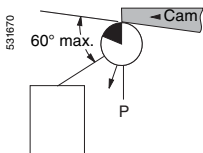

Figure 3
**Figure 3** shows operating lever roller following the trailing edge of the cam on the override cycle. Unless a one-way lever is used, the cam will operate the switch on the return cycle.